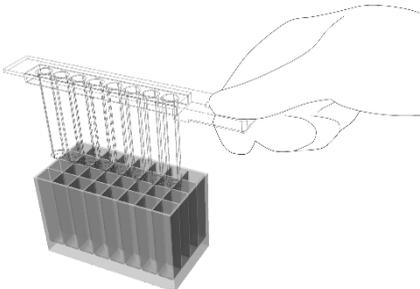

Figure 17. Mixing of content in **column 2** using the rod cover only.
- Using only the rod cover, mix the contents of **column 2**, by slowly lifting the rod cover to the top of the solution and returning the rod cover to the bottom of the wells 10 times for 1 minute (Figure 17).